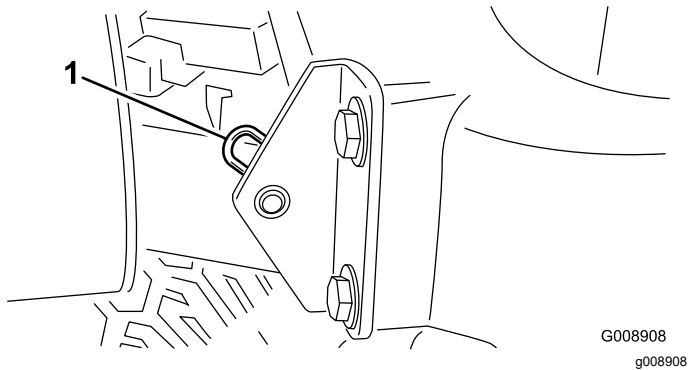

Figure 39
2. Remove the hairpin cotter securing the hood pivot to the mounting brackets (Figure 39).